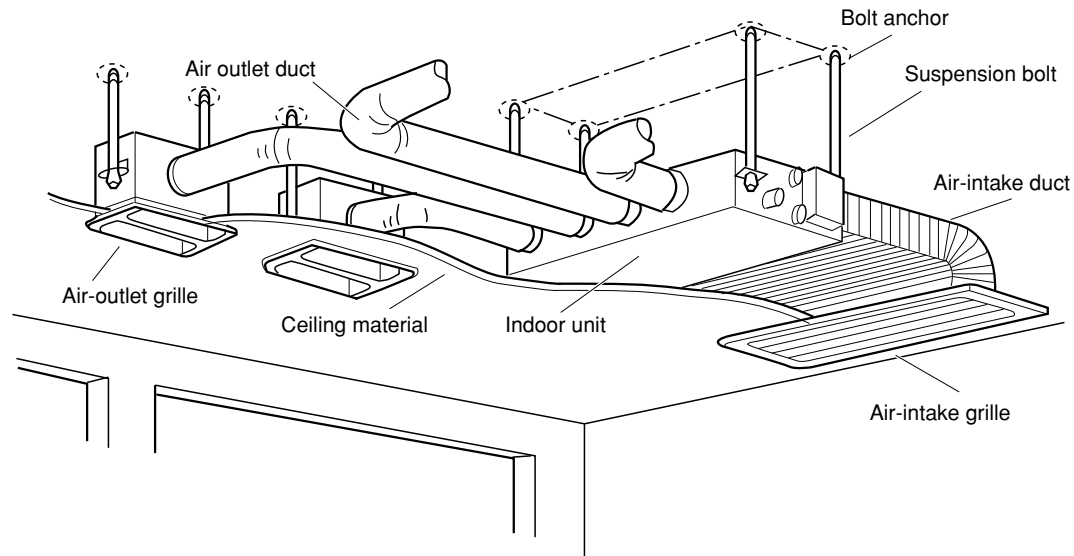

Fig. 3-88
- Fig. 3-88 shows an example of installation.